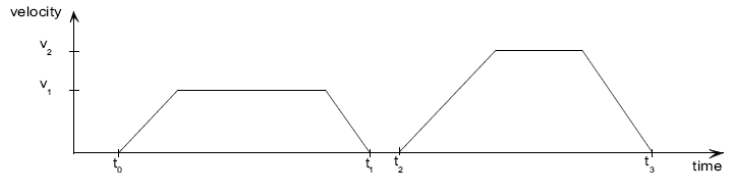

Figure 6.5 Single setpoint
When the setpoint has been transmitted to the drive, the master activates the positioning by setting the 'New setpoint' bit in the control word (2). The drive responds by setting the 'Setpoint acknowledge' bit in the status word (3) once the new data have been detected and saved. Now the master can delete the 'New setpoint' bit (4). The the drive signals by deleting the 'Setpoint acknowledge' bit that a new setpoint is accepted (5). In Figure 6.5 the mechanism initiates a speed 0 on reaching the target position at time t1. After the message indicating the target position has been reached, the next target position can be initiated at time t2.